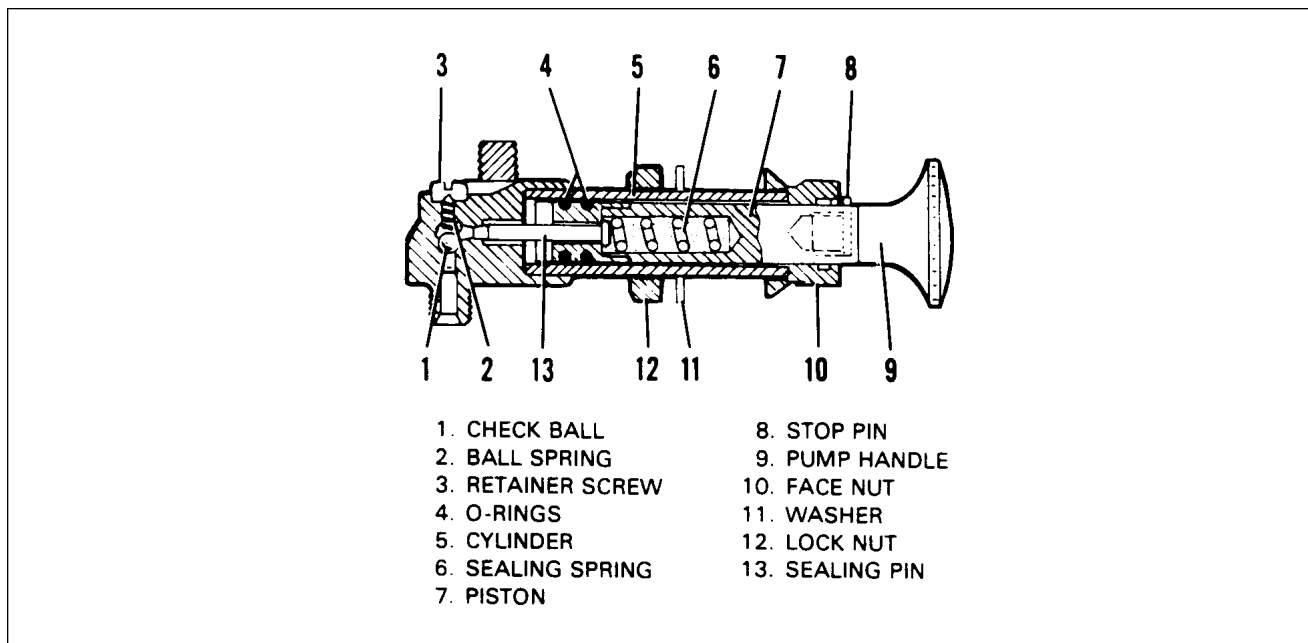

Figure 73-2. Archer II Engine Fuel Primer
- (1) Disconnect fuel lines from primer behind instrument panel.
- (2) Loosen locknut from behind panel.
- (3) Unscrew knurled face nut, and withdraw pump handle and piston from cylinder.
- (4) Remove remaining portion of primer.
b. Disassembly, Cleaning and Assembly of Engine Primer (Refer to Figure 73-2)
- (1) Primer may be disassembled after removal by removing screws, springs, and check balls from the end of cylinder housing.
- (2) Clean primer parts with acetone or dry type solvent.
c. Installation of Engine Primer (Refer to Figure 73-2.)
- (1) Remove pump handle and piston by unscrewing knurled face nut, if installed.
- (2) Insert cylinder assembly through back side of panel.
- (3) Insert piston into cylinder and tighten knurled face nut.
- (4) Position primer and tighten locknut on cylinder behind panel.
- (5) Connect fuel lines to primer.
- (6) Disconnect primer line inside engine compartment. Run pump to verify proper operation.